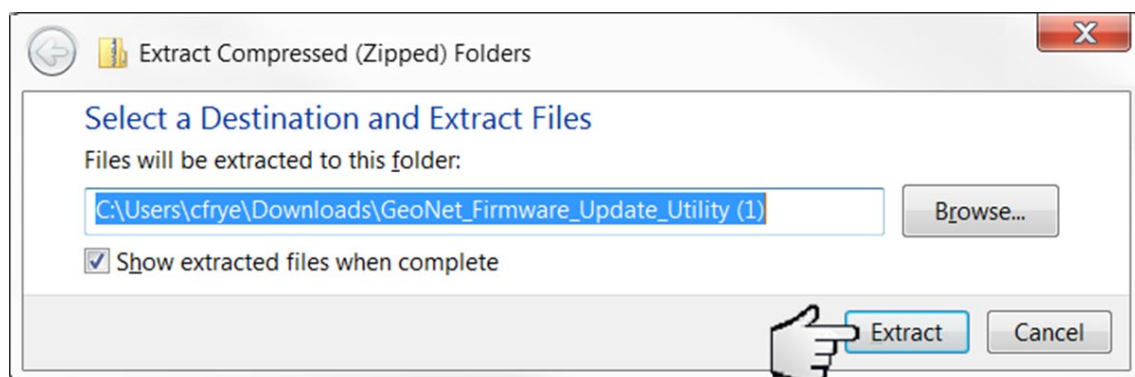

Figure 5- Select Destination, then Click Extract
- 6) Select a destination for the files and then click “Extract” (Figure 5).